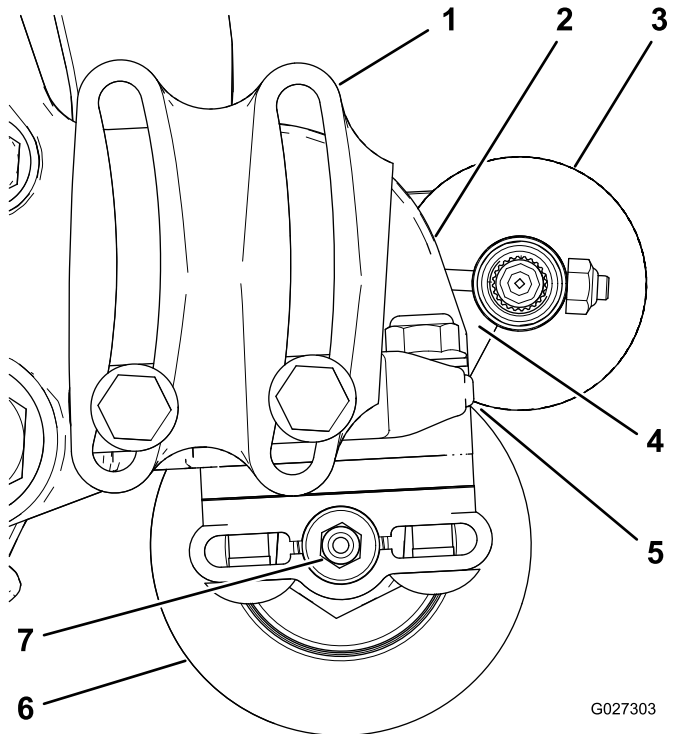

Figure 11
2. Position the roller brush so that it is just touching or resting on the rear roller (Figure 11).